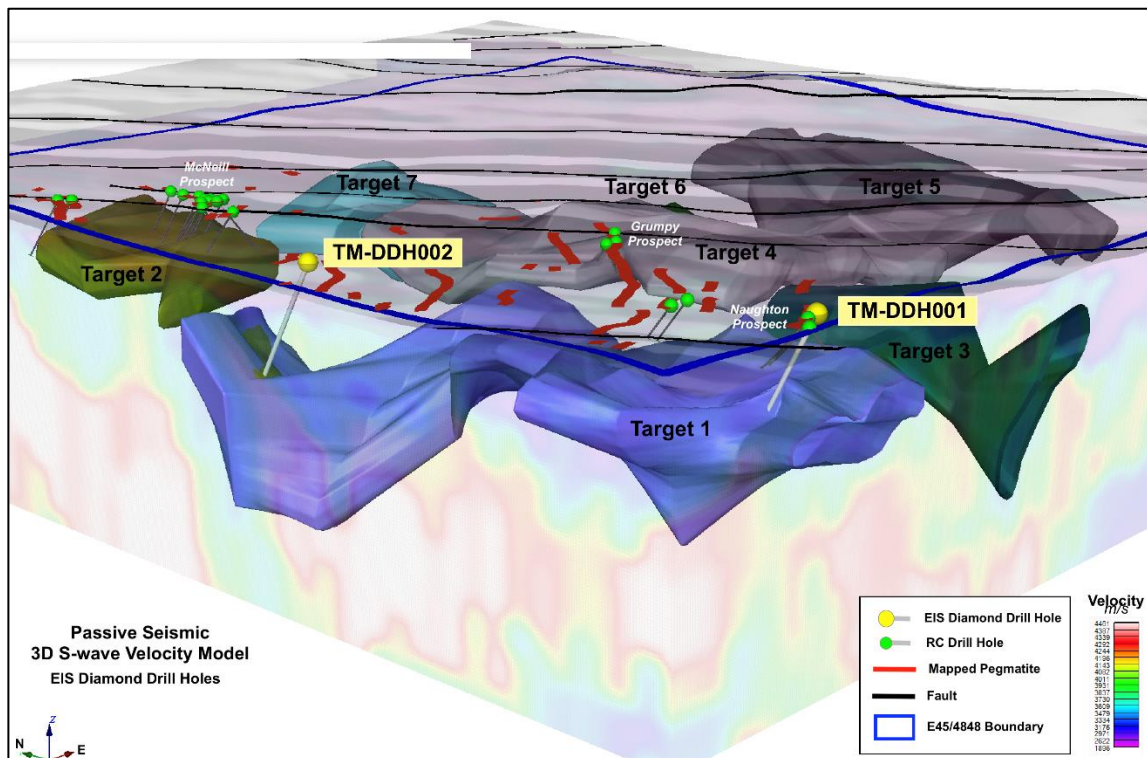

Figure 10: Proposed Drillholes over Passive Seismic 3D Model.
Infinity Mining has planned two 300m diamond drill holes targeting the northern and southern ends of Target 1, with one hole positioned beneath previous Reverse Circulation (RC) drilling and surface sampling at the Naughton Prospect (see Figure 10).